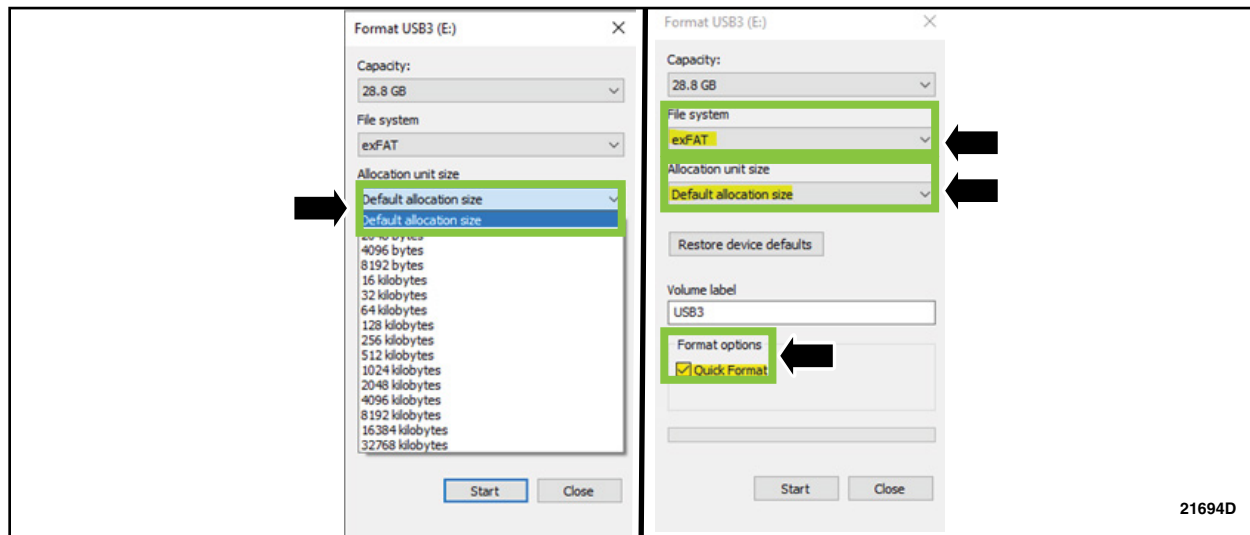

FIGURE 2
- De-selecting Quick Format is not necessary and will result in a lengthier operation. See Figure 2.